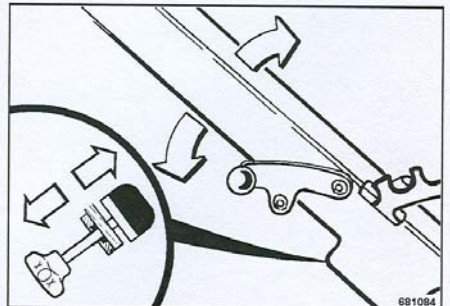

Fig. 21
- Adapt the steering rod to the desired body height using the height adjustment (Fig. 21).